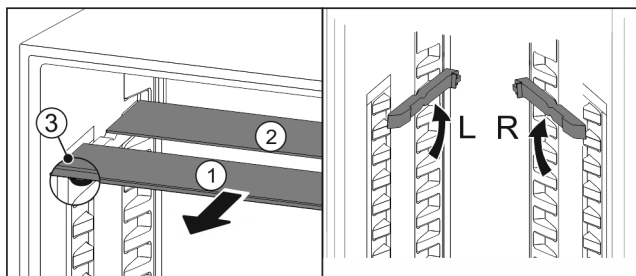

Fig. 44
- Pull the glass panels out Fig. 44 (1) from the front, one at a time.
- ▷ The glass panel Fig. 44 (1) and trim strip are at the front.
- ▷ The stops Fig. 44 (3) point down.